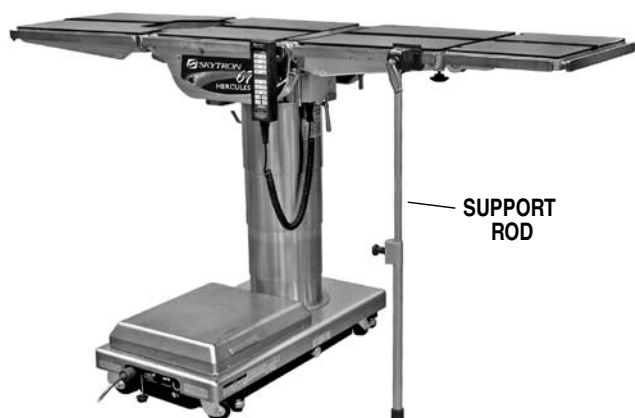

Figure 2-22. 90 Degree Top Rotation
b. The use of the optional support rod allows the table top to be rotated 90° from the base. See figure 2-22.
- Exercise caution with the table top rotated 90° to the base since an improperly distributed patient load may cause the table to be tipped over. A table support rod is required for 90° positioning. See figure 2-22.